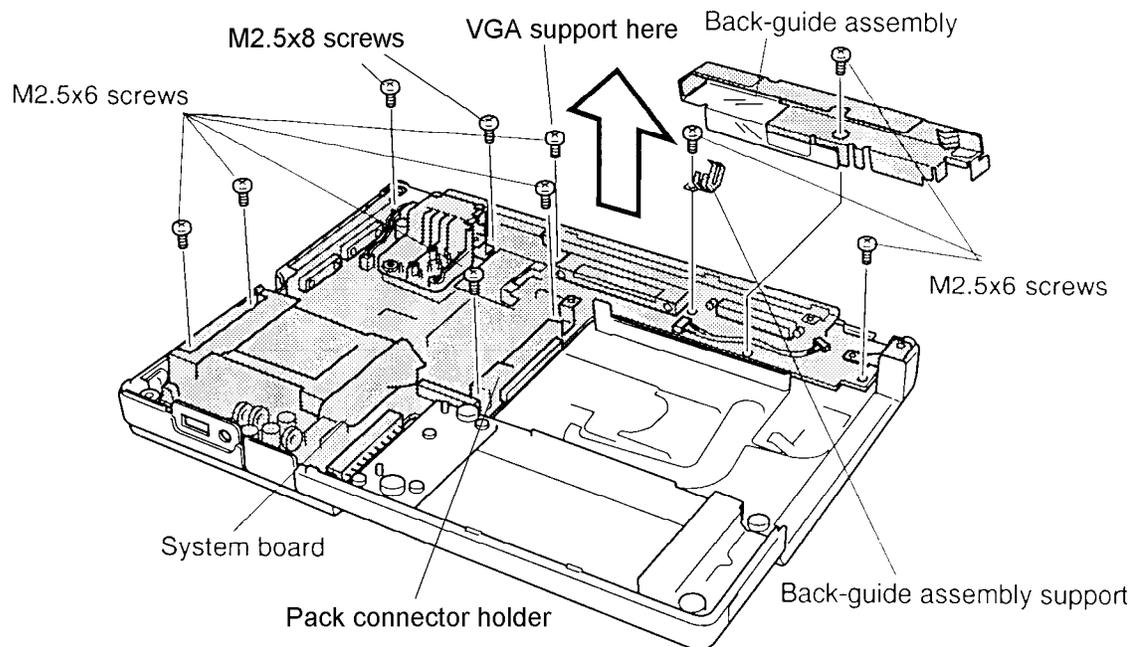

Figure 4-35 Removing the system board
To remove the system board and fan, follow the steps below and refer to figures 4-35 to 4-36.
To install the system board, follow the steps below and refer to figures 4-35 to 4-36.
4. Secure the system board with **eight M2.5x6 screws** and **two M2.5x8 screws** (figure 4-35). Be sure to replace the VGA support and pack connector holder.